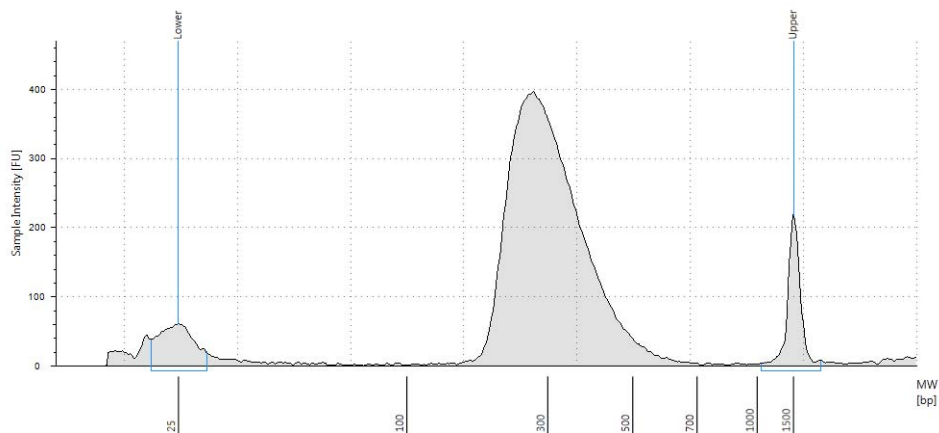

Figure 14 Analysis of purified indexed DNA amplicons using the 2200 TapeStation.
- 5 For each sample, measure the concentration of the library (ng/µL) by integrating under the peak at approximately 200 to 700 bp. A sample electropherogram is shown in Figure 14.